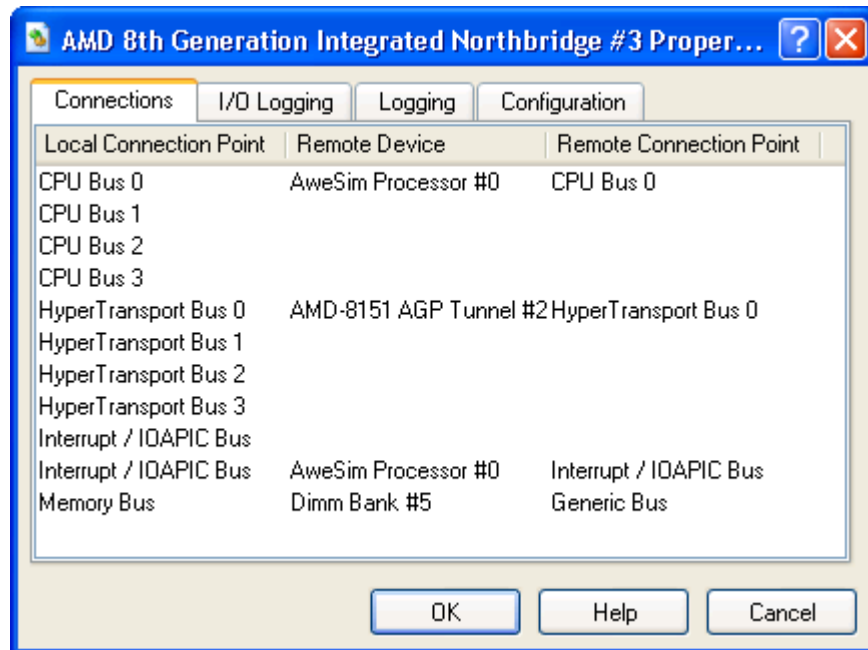

Figure 6-2: Connections Tab of Device Properties Window
7. Connect the AweSim Processor and the AMD 8th Generation Integrated Northbridge by shift-click-dragging from one to the other. When the “*Connections*” tab of *Device Properties Window* appears (shown in Figure 6-2), choose the CPU Bus 0 for both devices, and click on Ok. The connection appears as a line between the two devices on the *Device Window*. Then create an additional connection between the two devices using the Interrupt/IOAPIC Bus on each device. The *Device Window* shows only one line for the two connections between these devices. You can view the connections for each device by right-clicking on the device and looking at the “*Connections*” tab in the *Device Properties Window*.